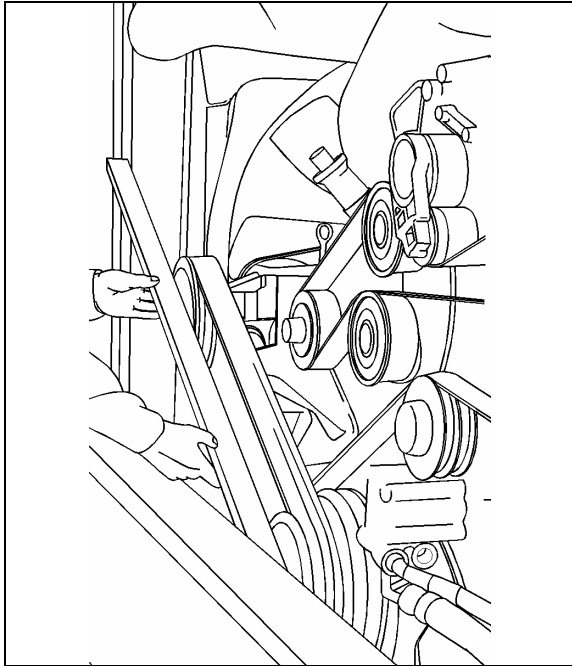

FIGURE 16: PULLEY ALIGNMENT
3. Using a straight edge, align the 3"V" pulley on gearbox central shaft pulley with engine pulley, while taking pulleys outer edge thickness under consideration i.e. 3"V" pulley's outer edge is thicker than that of engine pulley's (Fig. 16).
In order for tensioning system to work properly, adjust upper tensioning bracket to provide a $\frac{1}{4}$ " (7 mm) gap between stopper and bracket. Otherwise, release tension on system and readjust distance using bolts securing upper tensioning bracket (Fig. 16).